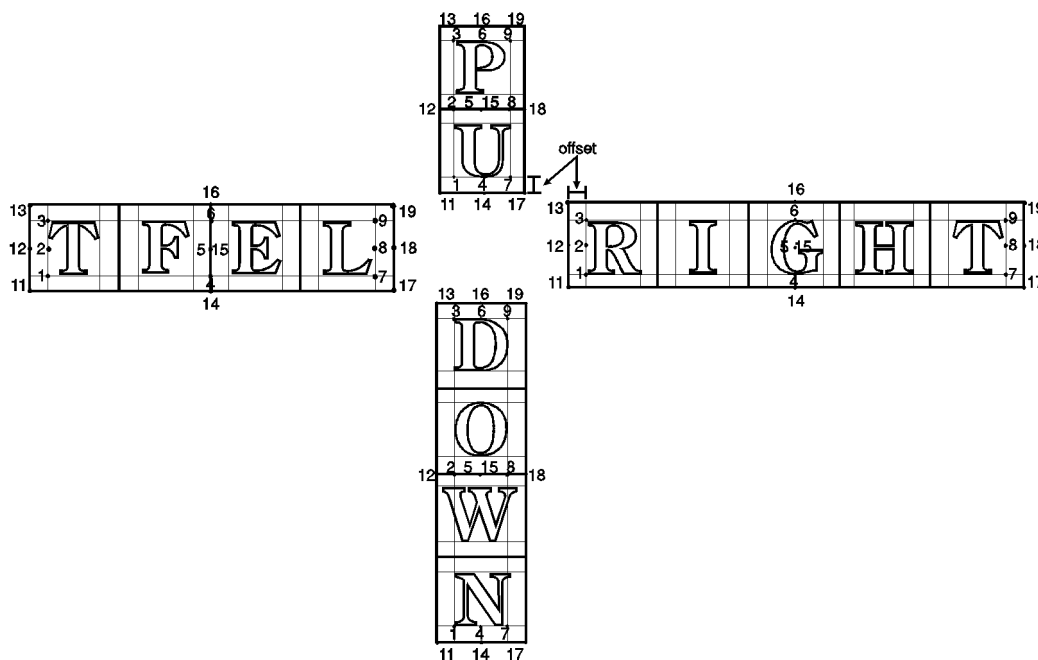

Figure 115. Label Origin Positioning
- **position:** Specifies the label location relative to the current pen location. Values 1, 2, 3, 11, 12, or 13 left-justify the label; values 4, 5, 6, 14, 15, or 16 center the label; and values 7, 8, 9, 17, 18, or 19 right-justify the label. Values 11, 14, or 17 position the character cell above the current pen location; values 13, 16, or 19 position the label below the current pen position or at intermediate points. Values 1 to 9 position the character cell relative to the current pen position; values 11 to 14 and 16 to 19 offset the labels (the offset is one-quarter of the character’s point size, or one-third of the point size [16 grid units] for stick fonts). Left and right are interpreted relative to the character baseline; above and below are relative to the character-up vector. The position numbers are graphically illustrated in Figure 115. Each dot represents the current pen location.
The label position 21 provides a PCL-compatible label origin. The character(s) are printed at the same location as in PCL. (Label position 21 is not shown in Figure 115 because the exact location is dependent on the PCL position.)
LO positions are applied to imaginary box drawn round the label on a line-by-line basis, regardless of the text path set by DV. Figure 115 shows LO positions for each of the possible text paths. Note the horizontal and vertical offsets for values 11 to 14 and 16 to 19.